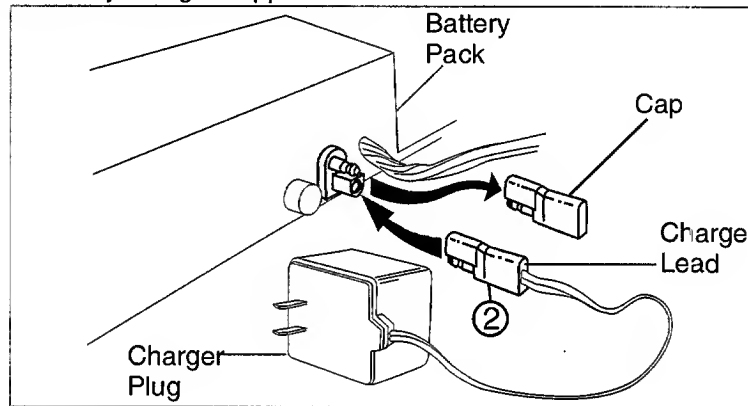

Figure 8
To charge the battery, (1) remove the protective cap from the end of the battery pack lead; (2) plug charger lead into battery pack lead; and (3) insert battery charger plug into 120 volt standard household outlet. See Figure 8. It is very important to follow this order of action for proper charging of the battery.